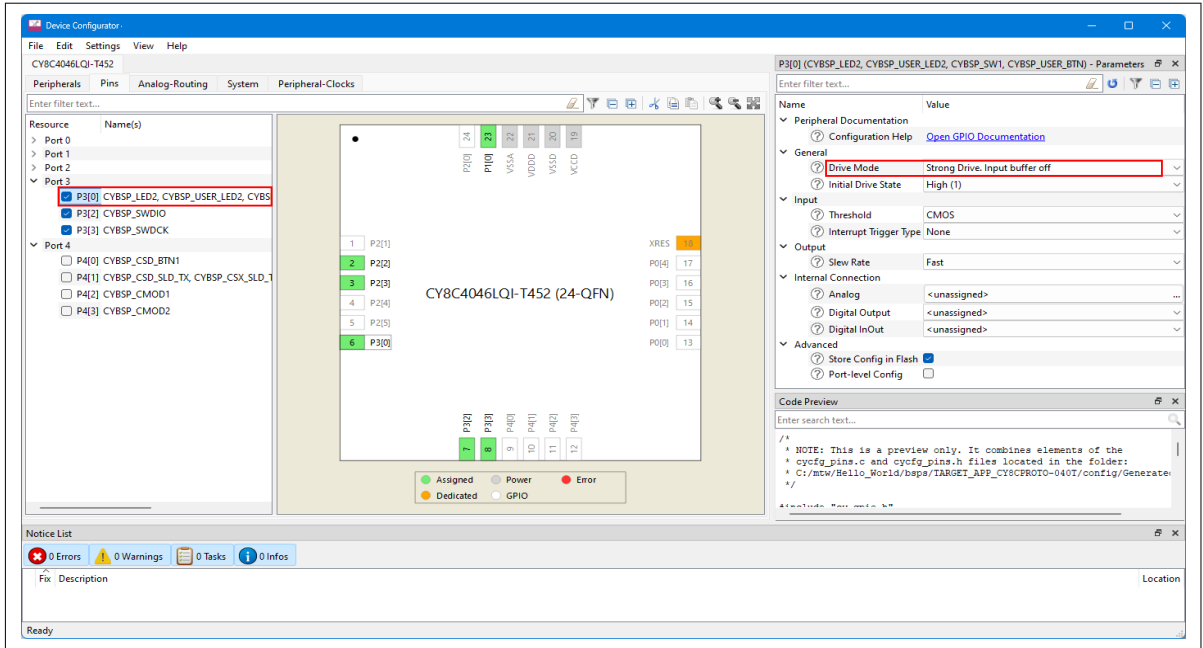

Figure 23 Configuring GPIO
- Go to the **Pins** tab in **Resource Categories** pane to configure the GPIO connected to the user LED on the kit. See Table 8 if you are using a different PSOC™ 4 kit. Configure the GPIO as shown in Figure 23.